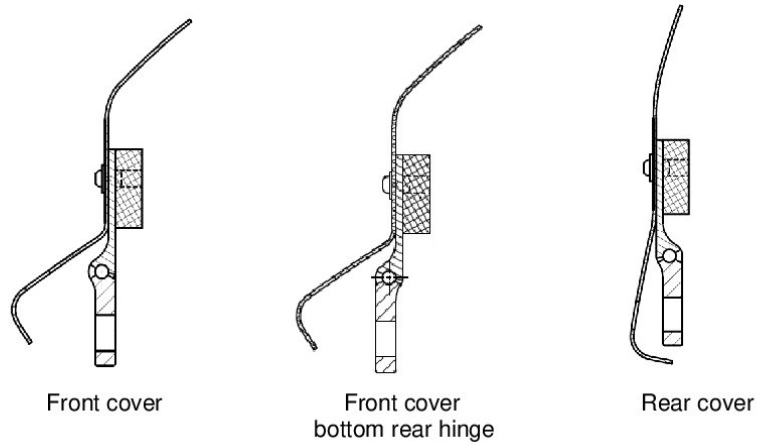

Figure 13
3. Insert the washer with sealing compound applied on the side in contact with the container side, on the bulb side of the rivet, see Figure 13.